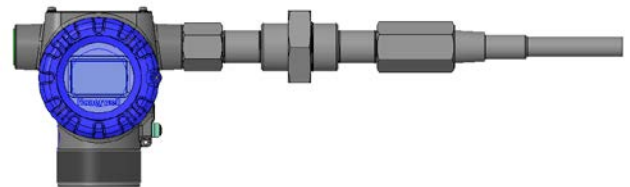

Figure 2: Transmitter with Threaded Thermowell
- Threaded and socket weld assembly with thermowell and extension (Figure 2)